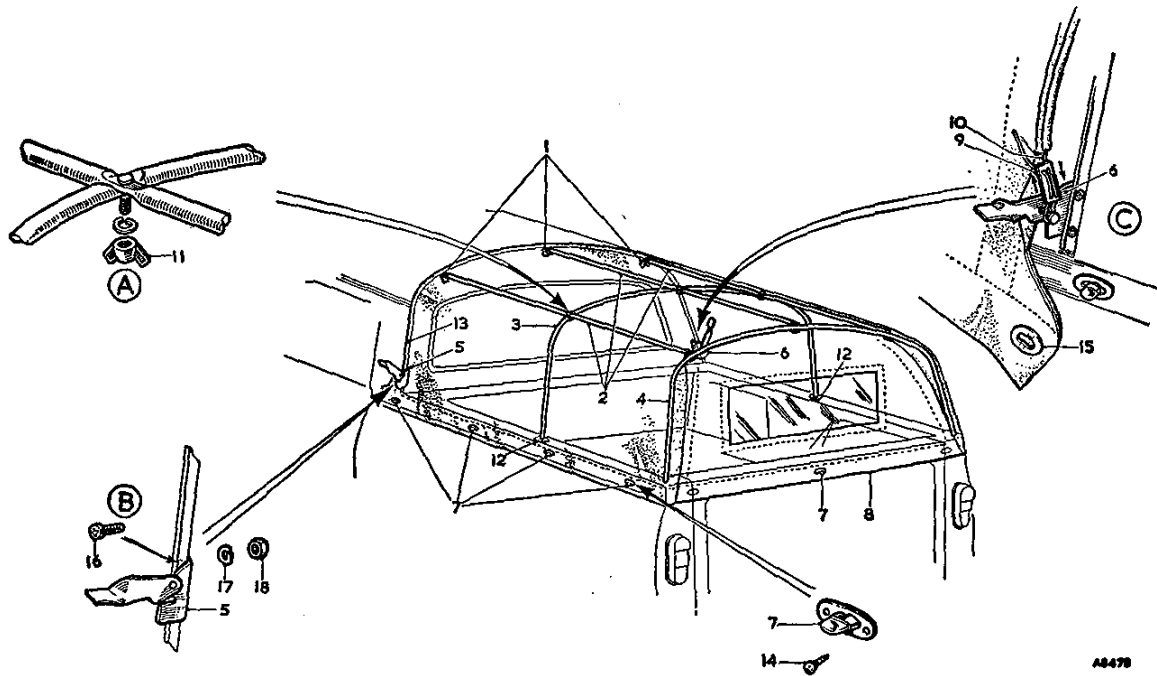

Fig. R.3
- (1) Fit the rear hoop ends into the sockets at either side of the rear end of the body. Ensure that the three brackets attached to the top of the hoop face forwards.
- (2) Fit the centre hoop ends into the sockets at the centre position.
- (3) Engage the studs of one of the struts in the hole in the centre bracket at the top of the rear hoop, the centre hole pierced in the top of the centre hoop, and the hole in the centre bracket attached to the rear of the cab at the top (see Fig. R.3). Fit a spring washer and wing nut to each stud and tighten fully (inset (A) of Fig. R.3).
- (4) Repeat this operation with the other two struts, using the fixing holes in the brackets and centre hoop either side of the central fixing points.
- (5) Place the R.H. lever bracket assembly on the rear face of the channel fixed around the rear of the cab with the drilled face of the bracket against the channel, its lower edge approximately in line with the top edge of the seam (body cross-member to cab). The lever attached to the bracket must face outwards and the lever pin must face forwards.
drilled face of the bracket onto the body and drill two holes $\frac{1}{4}$ in. (5.16 mm.) diameter. Fix the bracket to the channel with two of the No. 10 pan-head screws, nuts, and spring washers, the heads of the screws facing outwards (see inset (B) of Fig. R.3). Repeat this operation with the L.H. bracket on the L.H. side of the channel.
- (6) Lay the tilt cover, smooth face upwards, over the tilt frame with the fixing cable at the front.
from the bottom face of the plate, and returns down through the corresponding hole at the top. By adjusting the position of the cable in the plate the length of the cable can be varied as necessary (see inset [c] of Fig. R.3).